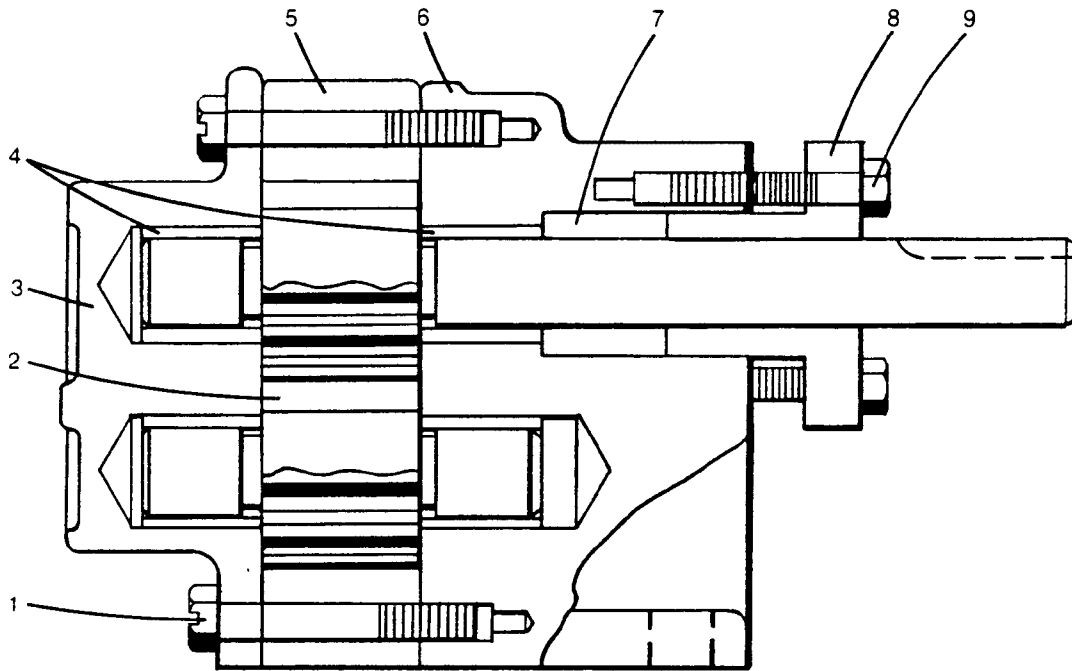

Fig. 2
- Remove the gland screws (9 in Fig. 2) from the pump. Remove the gland (8) from the pump.
- Remove the stand screws (1) from the pump. Remove the cap and bushings (3) from the pump. Also remove the